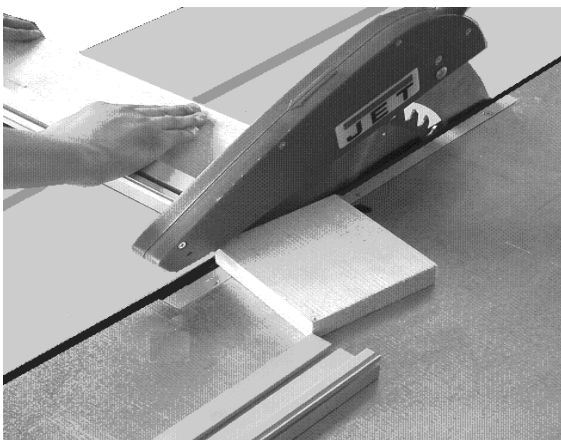

Fig 23.1
-When cross cutting using the rip fence, to avoid the wood getting stuck between the fence and the saw blade or the riving knife (resulting in a highly dangerous kickback) it is necessary to position the end of the rip fence before the front end of the saw blade (see Fig 23.1).